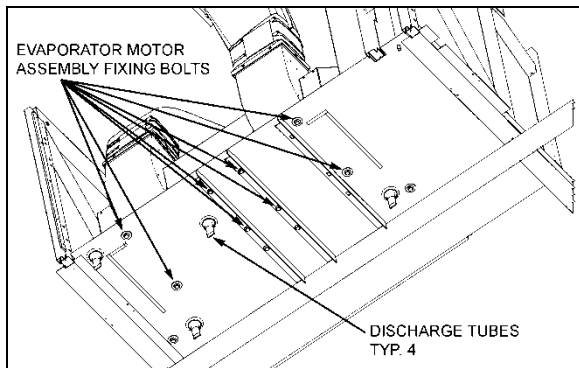

FIGURE 41: EVAPORATOR MOTOR BOLTS 22315
- From under the vehicle, remove the eight bolts fixing the double blower fan unit base. Remove the complete unit from the evaporator compartment (Figure 41).